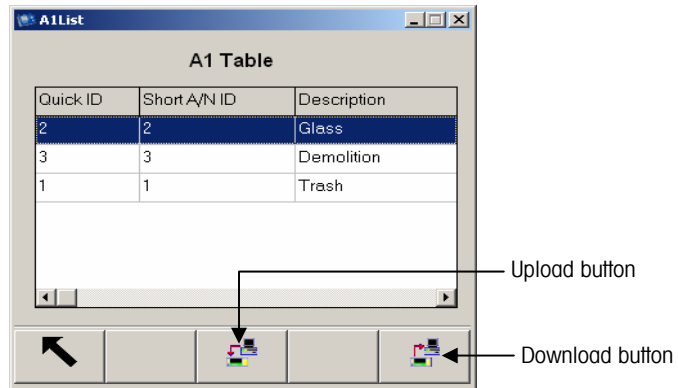
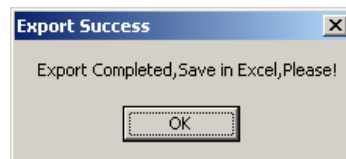

Figure B-15: A1 Table Contents
Figure B-16: Export Success Dialog Box
- Click on the Database Query icon to display the contents of the A1 Table (Figure B-15).
4. To download the contents of the A1 Table to a Microsoft Excel spreadsheet, click on the Download Button (Figure B-15). The Export Success dialog box (Figure B-16) displays to indicate the table data was successfully retrieved.
7. After editing/saving the information from Microsoft Excel, the table data can be uploaded into the IND310drive by clicking on the Upload button (Figure B-15).